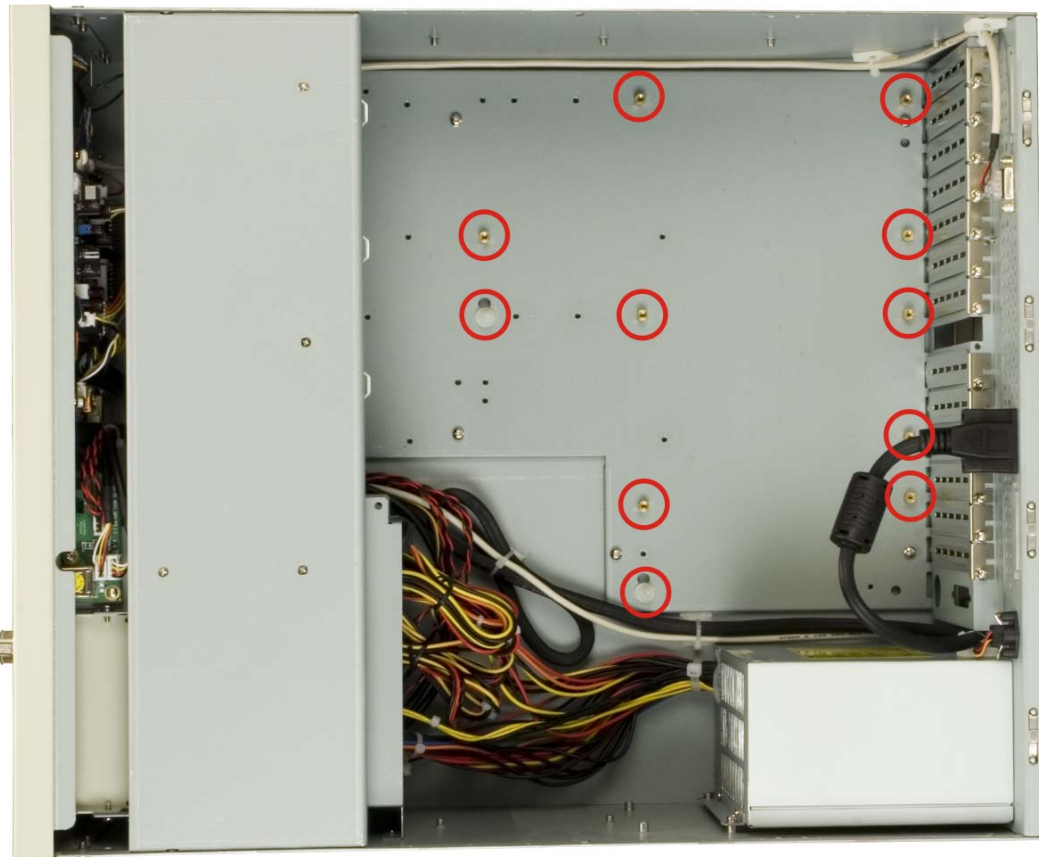

Figure 4-11: Install Copper Pillars and Plastic Spacers
Step 1: Install the correct amount of copper pillars and plastic spacers into the base of the chassis (**Figure 4-11**).
The backplane shown in **Figure 4-11** is an example for reference only. The location and number of copper pillars and plastic spacers depends on the backplane being used.